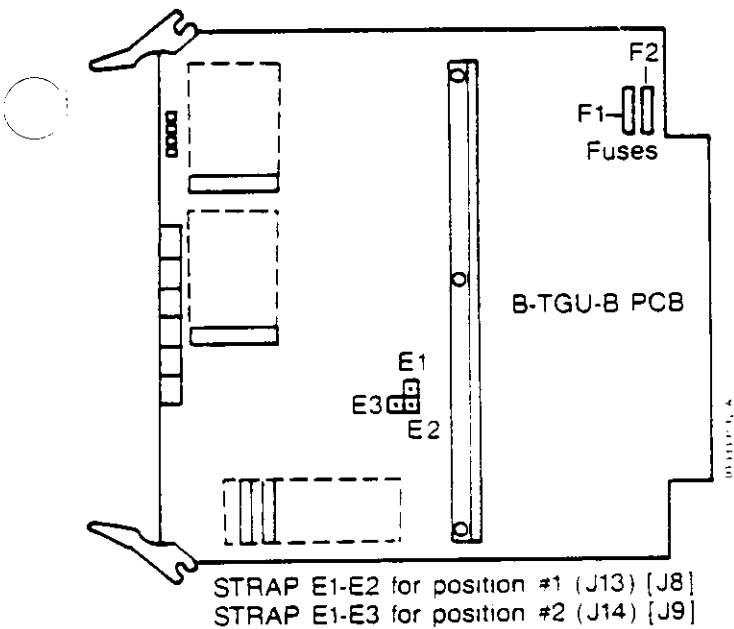
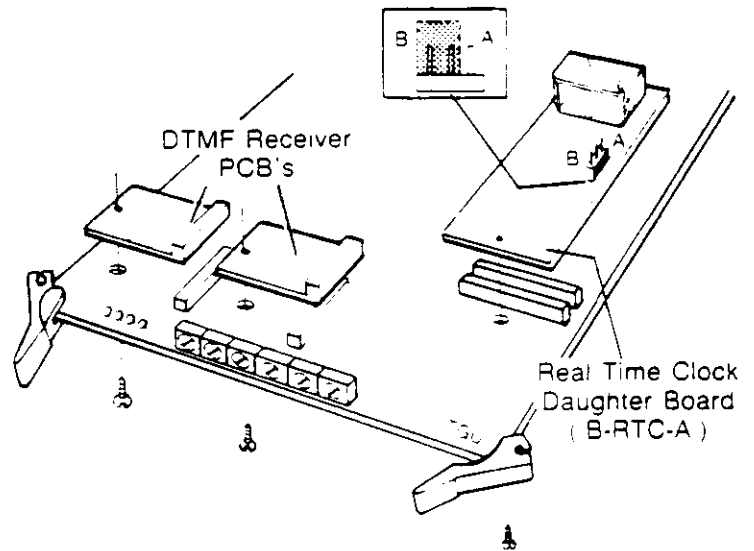

Figure 5-11 TONE GENERATOR (B-TGU-B) STRAPPING, EK-824/1232/1648
Figure 5-12 DTMF RECEIVER AND SMDR REAL TIME CLOCK DAUGHTER BOARD, EK-824/1232/1648
3.25 Up to two Tone Generator (B-TGU-B) PCBs (Figure 5-11) can be installed in the EK-1648 or EK-1232 KSL. A single B-TGU-B PCB can be installed in the EK-824 KSL. If additional DTMF receivers (Daughter Boards) are required, install them on the B-TGU-B PCB (Figure 5-12). If the battery backed-up Real Time Clock (B-RTC-A) is required, install it on the B-TGU-B PCB as shown in Figure 5-12. The B-RTC-A PCB has a two position jumper assembly (Figure 5-12). When a B-RTC-A PCB is installed on the Tone Generator PCB, this jumper must be strapped to the B side of connection. Strap the B-TGU-B PCB (Figure 5-11) according to the following: